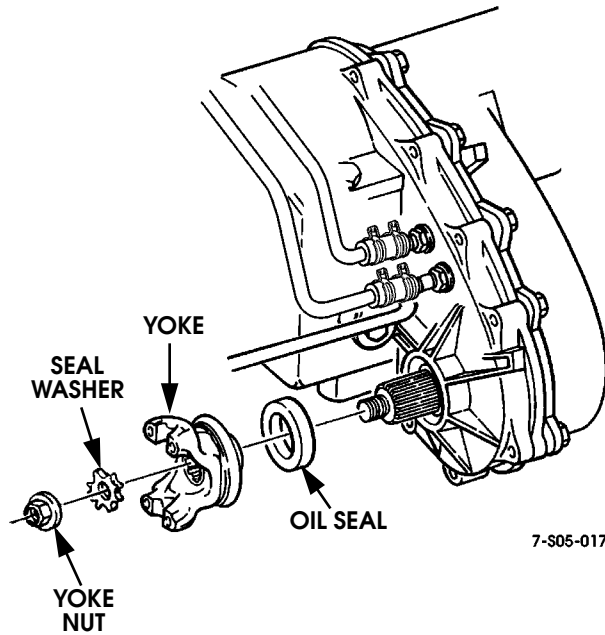

Figure 5-79: Front Output Shaft Yoke and Seal Removal/Installation
3. Remove yoke nut (Figure 5-79).